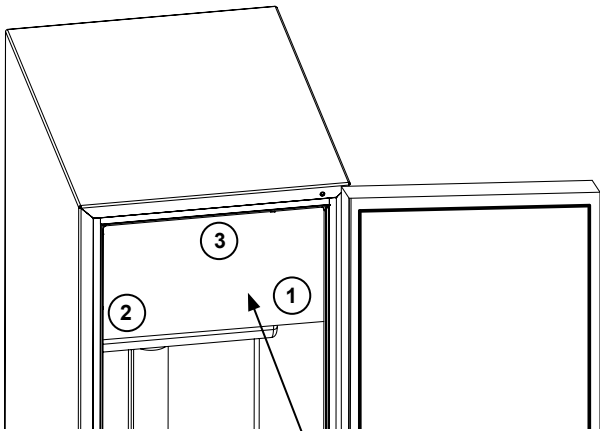
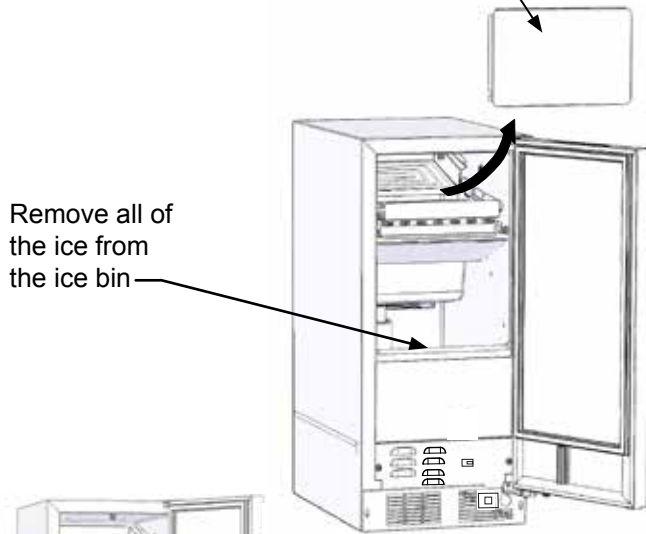
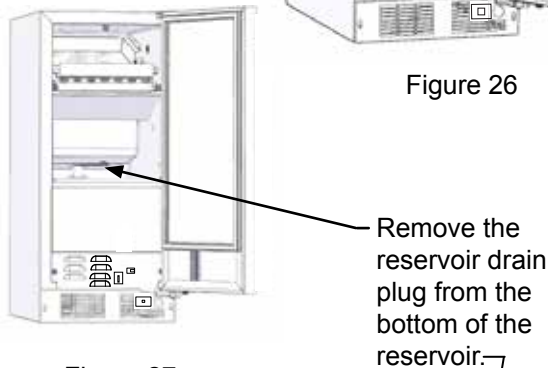

Figure 25 Remove the grid cutter cover
Figure 26
Figure 27
Follow the following three step procedure for removing the grid cutter cover from the ice machine, Refer to Figure 25 and Figure 26:
Remove all ice from the ice bin, (see Figure 26).
Drain the water from the water reservoir, by removing the black plug from the bottom of the fresh water reservoir. (See Figure 27). After the water is drained replace the plug in the bottom of the reservoir.
**Do not try to remove ice that is embedded in the grid cutter wires as that may break the wires.** (See Figure 26 and Figure 27).